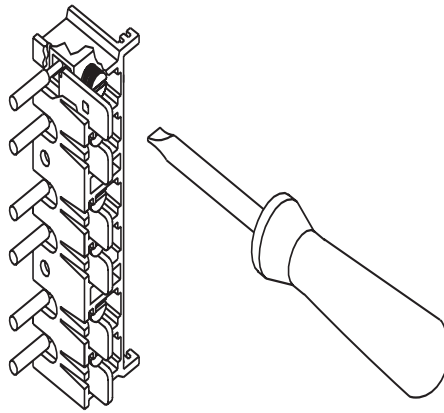

Figure 34: Terminating load lugs
5. Connect each load wire to assigned dimmer lug by inserting wire between back of the lug and the pressure plate. See Figure 34.